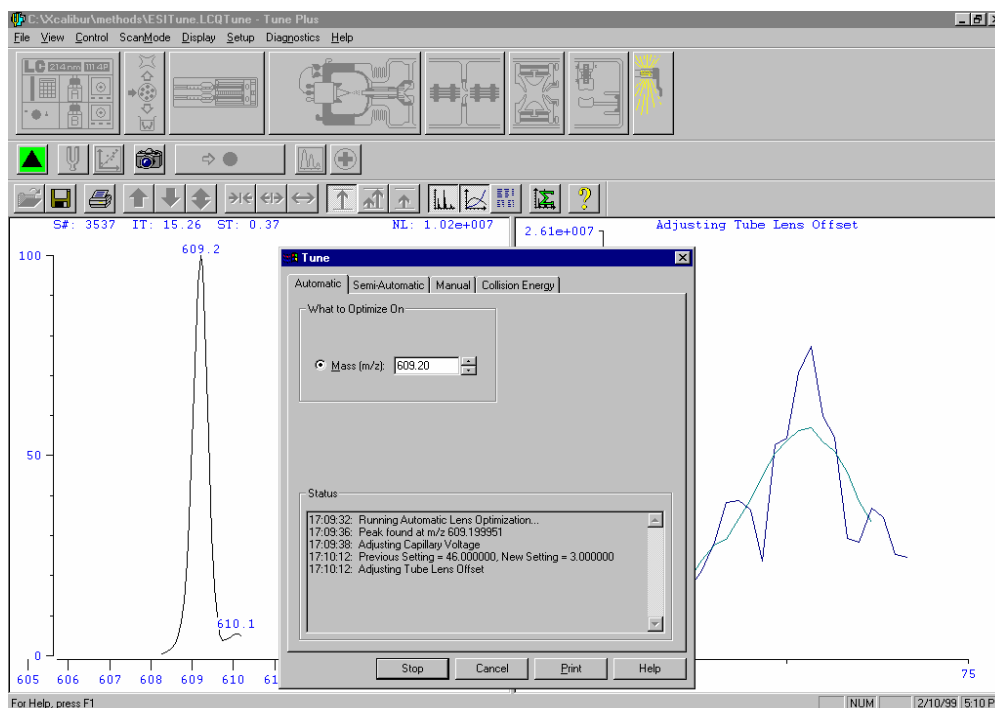

Figure 17. The Tune Plus window with the Tune dialog box, showing the automatic page.
8.2.3.12.4.4. Click on the Graph View button in the File/Display toolbar of the Tune Plus window to display the Graph View. Observe the Tune Plus window and the Tune dialog box. LCQ displays the various tests and messages in the Status group box. See Figure 17.